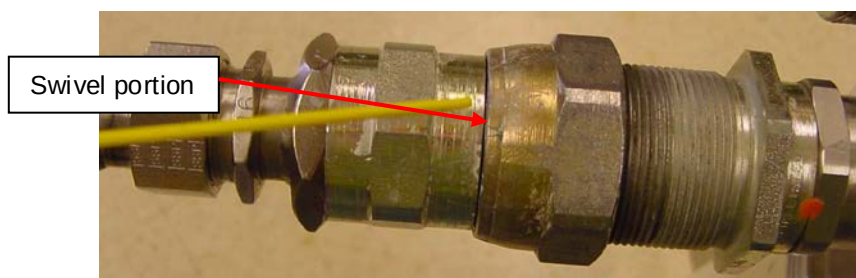

Figure 5
- 3.1. Apply a small amount of TFL-50® to the swivel portion of the female Aeroquip® as shown in Figure 5.